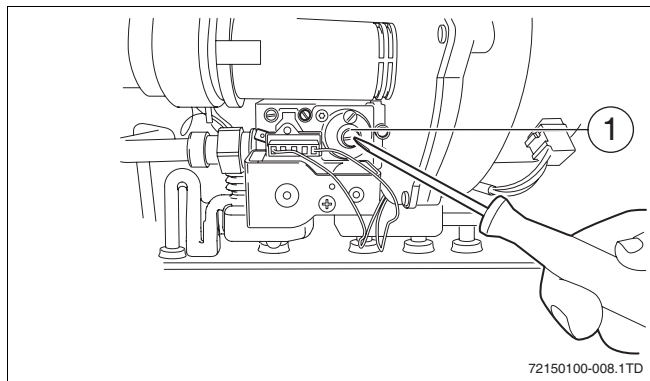

Fig. 9 Setting the gas/air ratio
- ▶ If the gas/air ratio is not correct it can be adjusted using the adjustment screw (→ fig. 9, [2]). The adjustment screw is located behind the cover screw.